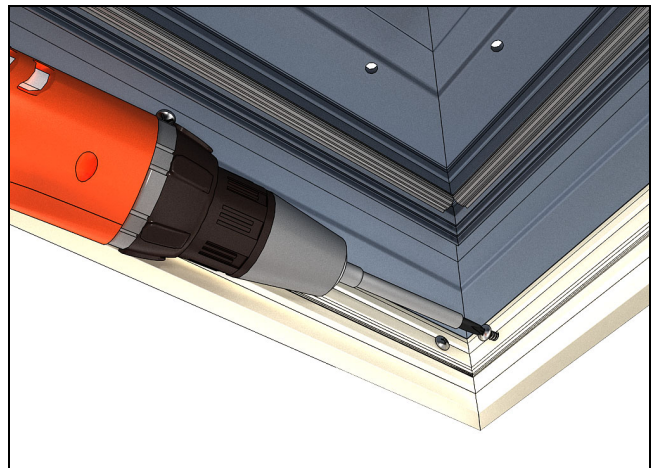

Figure 15
17. Fasten the frame cladding corner key using a #8 x 3/8" pan head screw into the remaining holes. See Figure 15.